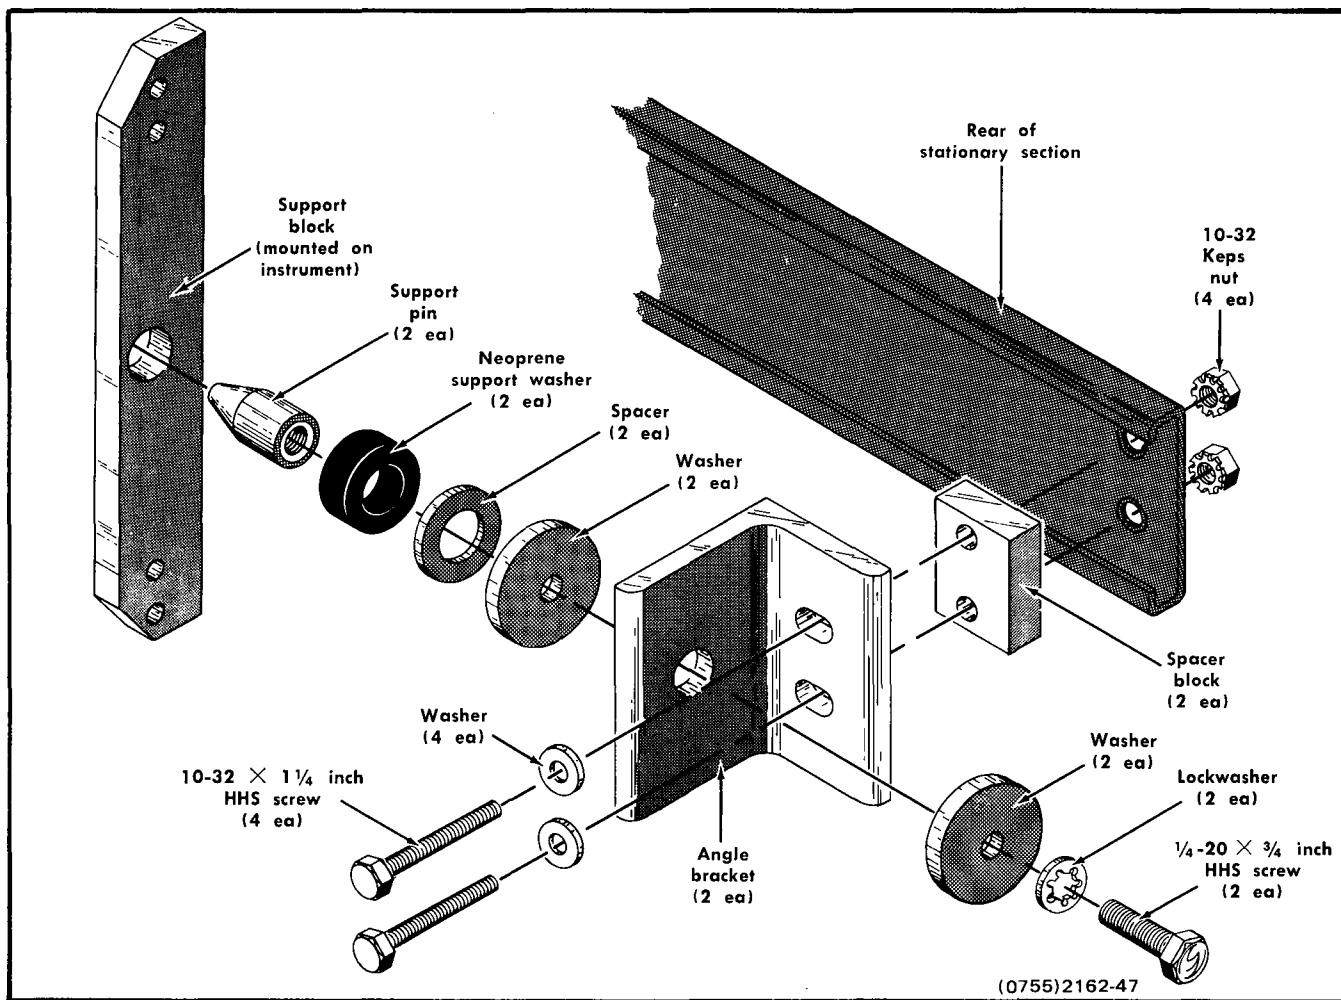

Figure 2-12. Rear support kit.
The following mounting procedure uses the rear support kit, p/n (016-0096-00) (see Figures 2-12 and 2-13) to meet the environmental characteristics of the instrument (shock and vibration). Two alternative mounting methods are described at the end of this procedure. However, when mounted according to these alternative methods, the instrument may not meet the given environmental characteristics for shock and vibration.
3. Attach an angle bracket to both rear rails of the rack through the spacer block, stationary section, and into the rear rail of the rack. Note that the holes in the spacer block are not centered. Be sure to mount the block with the narrow edge toward the front of the rack; otherwise, the instrument may not slide all the way into the rack. Do not tighten the mounting screws. Figure 2-12 shows the parts in the rear support kit and the order in which they are assembled.
4. Assemble the support pin to the angle bracket in the order shown in Figure 2-12. Leave the spacer (washer) off, but install the neoprene washer.